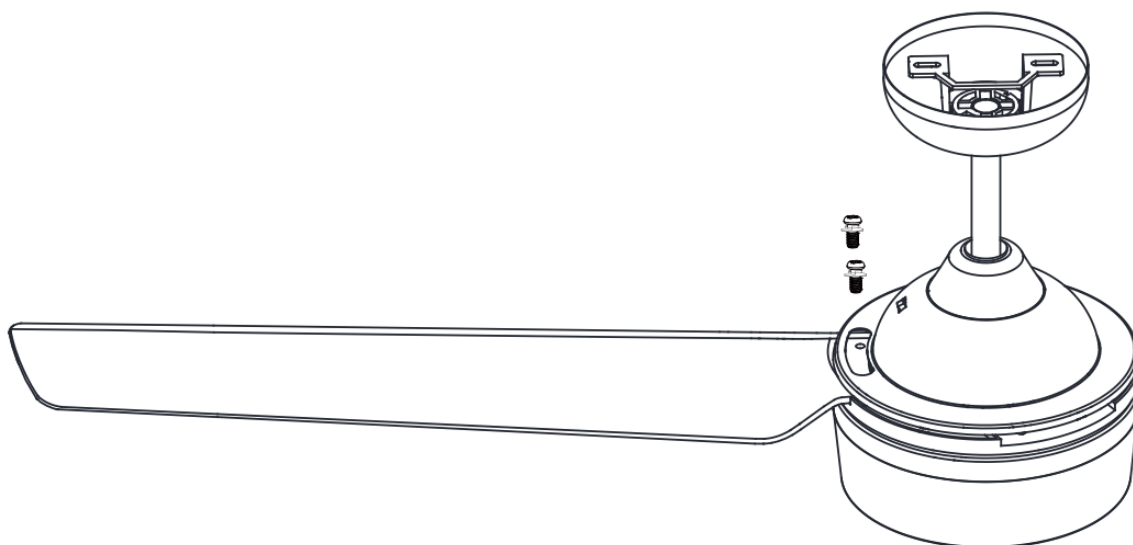

Fig. 6
1. insert the blade into the slot of rotating member of fan motor assembly. Align the 2 holes on the blade with the 2 holes on the rotating member of fan motor assembly and using 2 blade screws with lockwashers (supplied in fan parts bag) to secure the blade to the fan motor assembly. (Fig. 6)